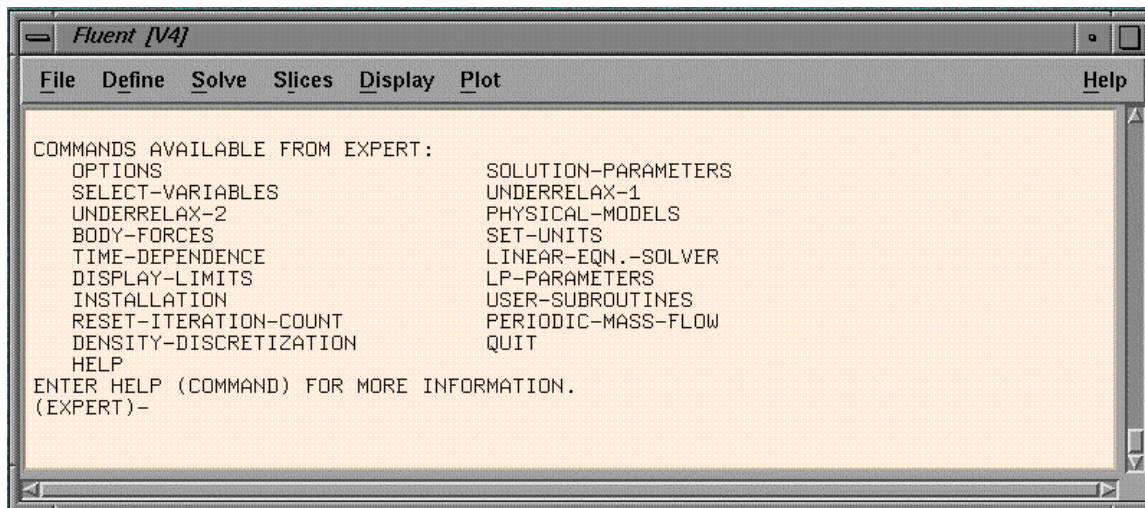

Figure 3: Expert menu
- 6) *Expert* (figure 3) - *Periodic Mass Flow*.